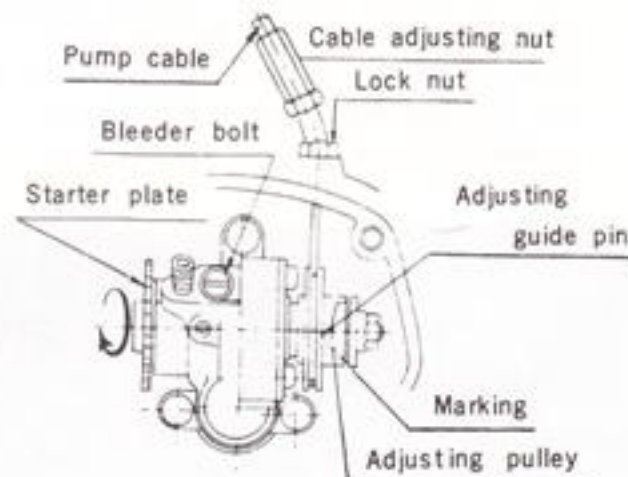
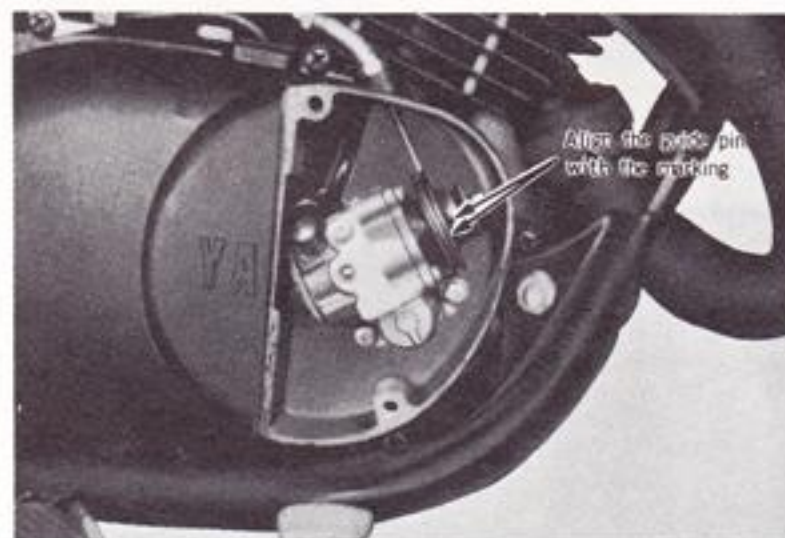

Fig. 2-3-7
Fig. 2-3-8
- a. Adjust the pump cable so that the marking (arrow) on the Autolube pump adjusting pulley is aligned with the guide pin (see Fig. 2-3-8). Begin by fully closing the accelerator grip, then slowly turning it back again so that the slack in the throttle cable is completely taken up. Next, adjust the pump cable so that the marking on the pump adjustment pulley will be aligned with the guide pin, as shown in Fig. 2-3-7. The point of adjustment is at the end of the cable, just before it enters the case. Loosen the lock nut and screw the adjustor in or out, whichever direction is necessary to obtain the correct adjustment.